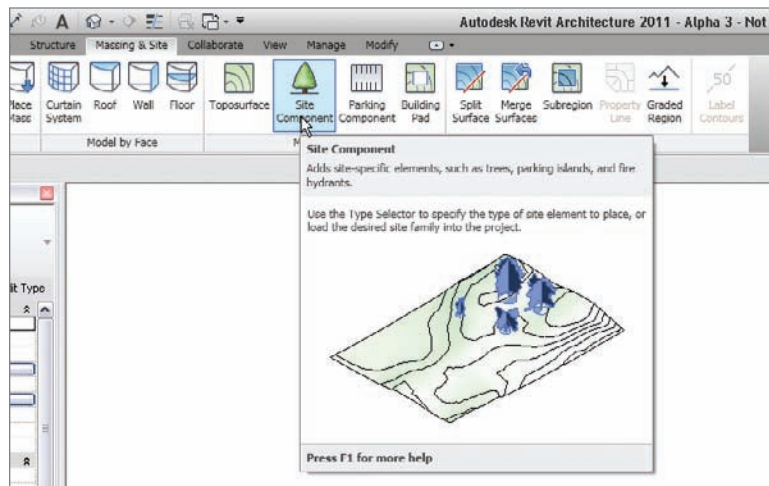

FIGURE 18.14 The Site Component button
5. On the Massing & Site tab, click the Site Component button, as shown in Figure 18.14.